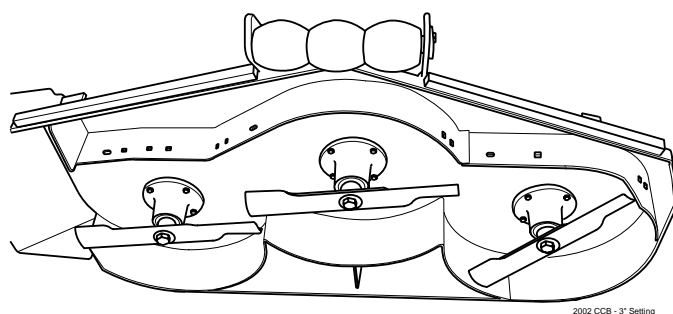

Figure 6-9. 3" Custom Cut Baffle Position
- A. 3" Position - baffle removed. (See Figure 6.9). With the baffle removed, the Advantage cutter deck will deliver the best quality-of-cut in very tall, wiry, tough to cut grass.
3. Move the Custom-Cut Baffle to desired position. (See Figures 6.9 through 6.11 for position).